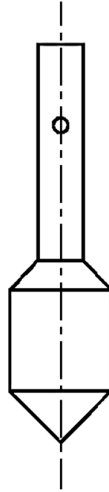

Figure 2 -- Schematic Diagram of Rotor
- c) The rotor and crucible should be made of platinum-rhodium alloy, and the shape of the rotor should be a biconical cylinder, as shown in Figure 2; the crucible should be an open conical structure, with an inner diameter of 50 mm ~ 60 mm at the bottom, an inner diameter of 70 mm ~ 80 mm at the mouth, and a height of not less than 60 mm; the ratio of the average inner diameter of the crucible to the diameter of the rotor shall be not less than 5. The average inner diameter of the crucible refers to the average value of the maximum diameter and the minimum diameter.